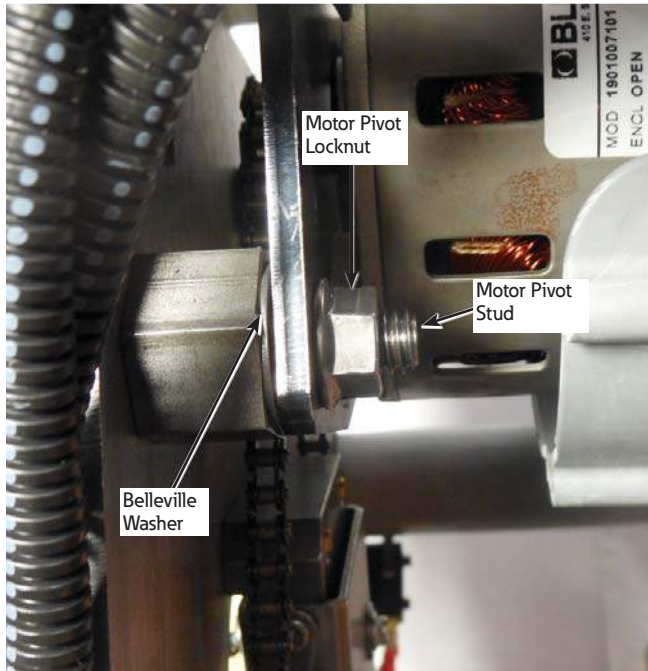
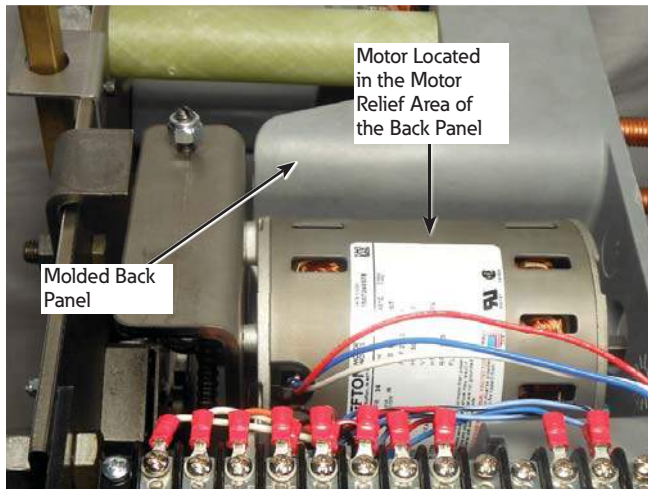

Figure 5. Motor pivot stud
Figure 6. Removal of the motor
6. Remove the motor pivot stud locknut with a 9/16" ratcheting wrench. Pull the motor off of the motor pivot stud; make sure the Belleville washer stays on the motor pivot stud and does not fall into the tank. Set the motor in the motor relief area of the molded back panel. Refer to Figure 5 and Figure 6.